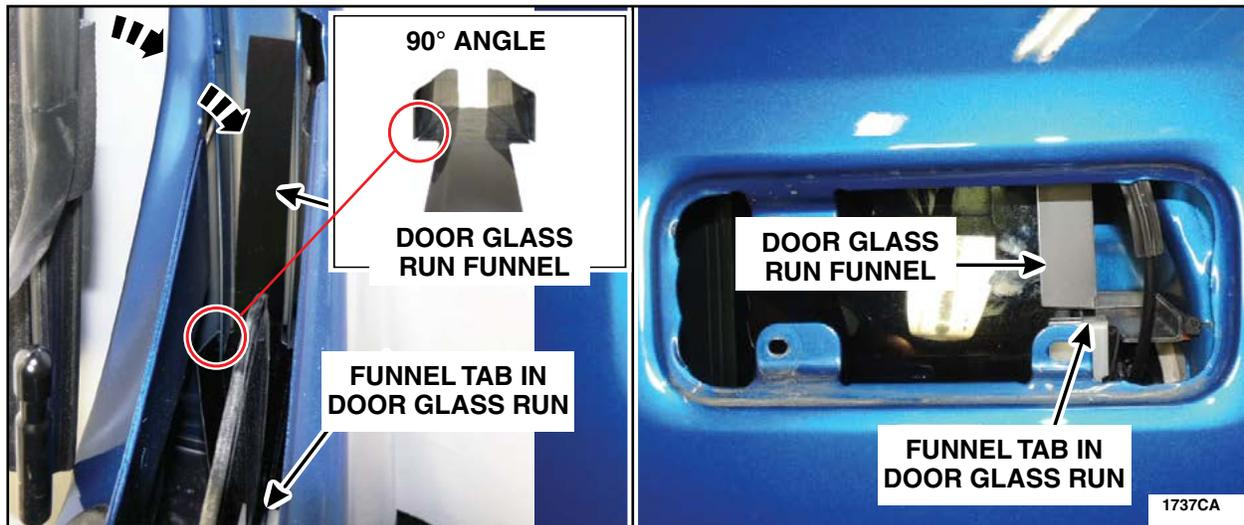

FIGURE 85
8. Install the door glass run funnel (132mm funnel wings), ensuring the lower tab is situated in the door glass run and the funnel sides sit at a 90° angle above the door glass run. Refer to ATTACHMENT V for additional information. See Figure 85.